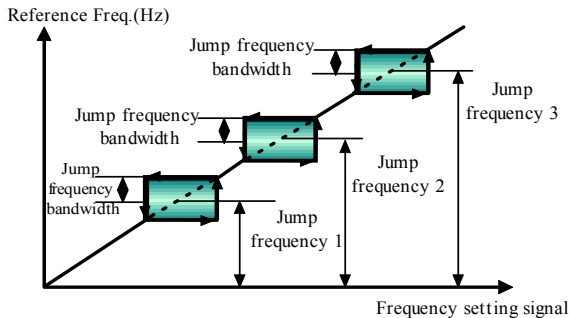

Fig. 5-2-5 Jump Frequency
- ◆ To avoid mechanical resonant, the inverter can skips round some running points, which is called Jump frequency. As shown in Fig. 5-2-5.